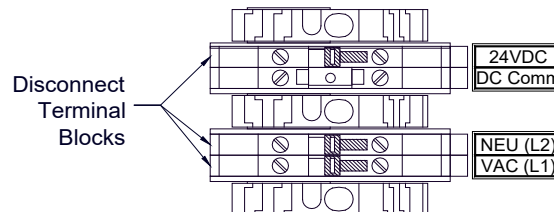

Figure 14 N4X AC/DC Inputs
2. Install AC power as follows (Figure 14):
- a. Install external DC power by connecting the 11.5-30VDC to the terminals of the TB1 DIN rail mounted terminal block labeled **24VDC** and **DC Comm** (Figure 14). The equipment supply wiring must be safety approved and rated for at least 7.5A.